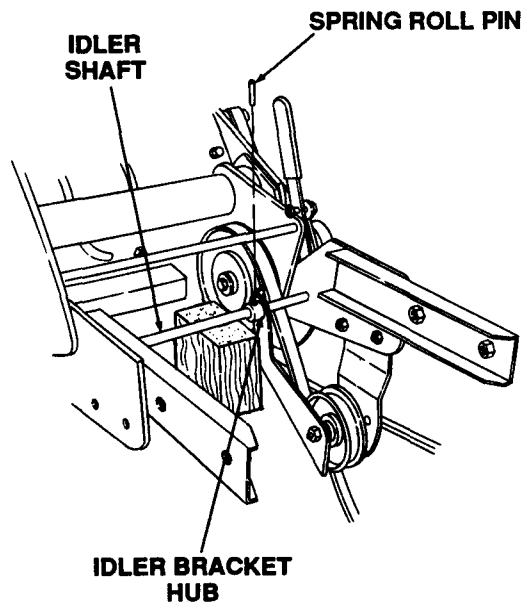

Figure 7-56. Installing Roll Pin.
7. Align the hole of the idler bracket (9) hub with the hole in the idler shaft (8). Using a block of wood to support the idler shaft, drive the spring roll pin (38) through the holes as shown in Figure 7-56.